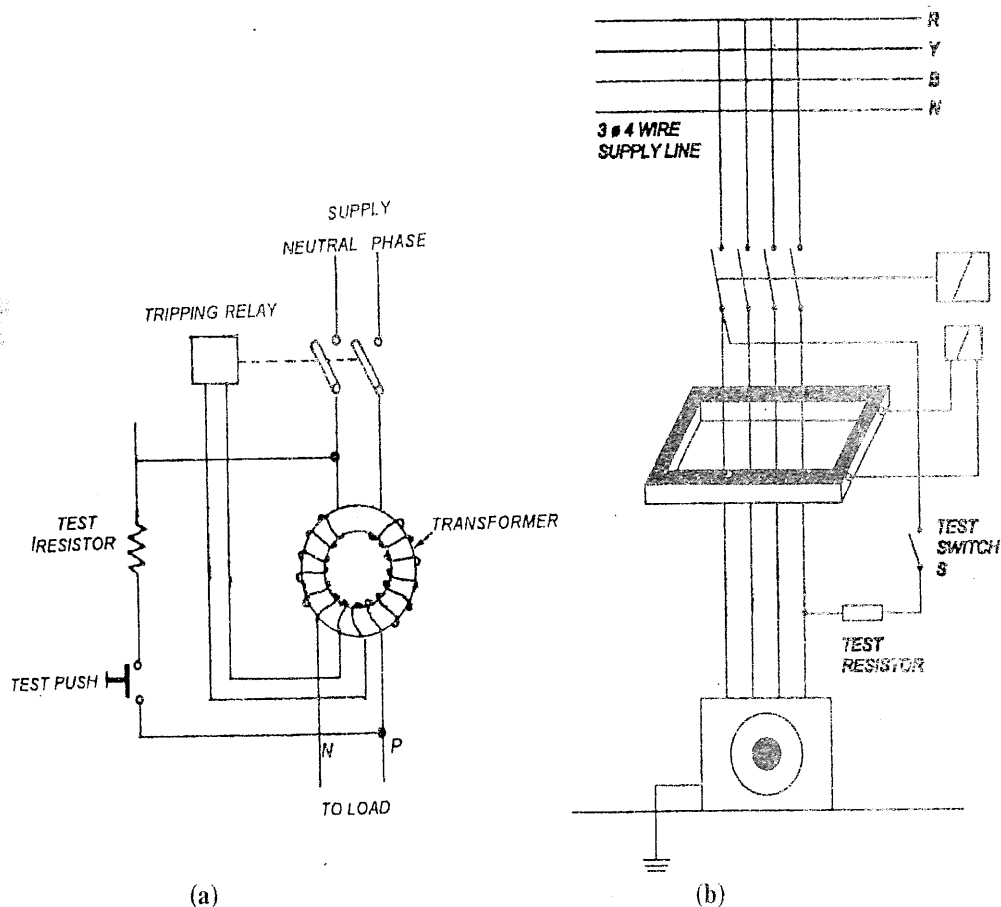

FIG. 5.6 : EARTH LEAKAGE CIRCUIT BREAKER
- Consider a single-phase circuit. The two supply wires i.e. phase and neutral are fed through separate winding of a current transformer as shown in Fig. 5.6(a).
- For a 3-phase circuit, the connection is shown in Fig. 5.6(b).